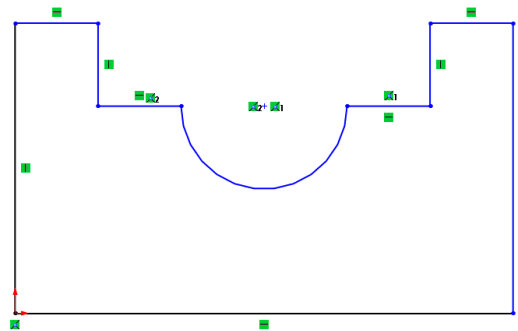

Figure 2-63 Final sketch for Tutorial 2
- d. Draw the sketch using the **Line** tool, refer to Figure 2-63.
18. Press the F key to modify the drawing display area. The final sketch for Tutorial 2 with the grid display turned off is shown in Figure 2-63.